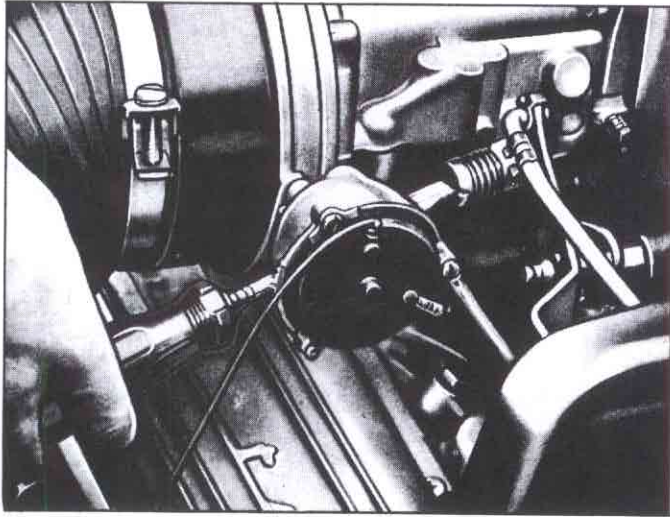

Fig. 62—Idle Air Adjustment
1. Turn idle air adjustment screw (engine speed) and idle fuel adjustment screw to approx. two turns open. Start engine and warm up, then adjust air adjustment screw (fig. 62) to obtain best possible idle speed.